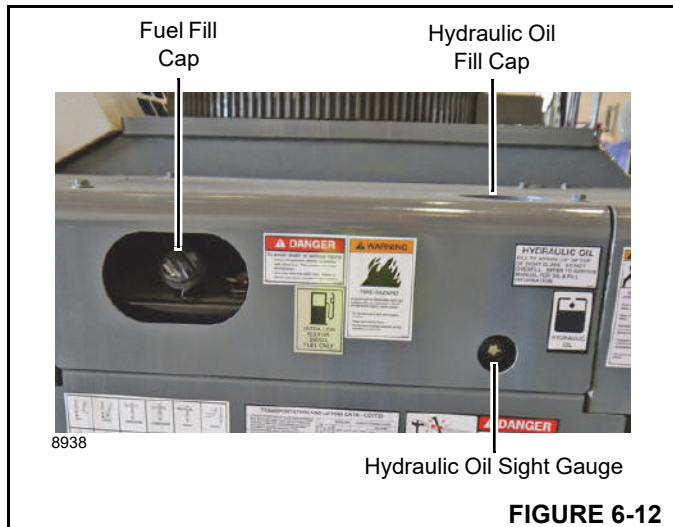

FIGURE 6-12
Check the fuel level daily before operation. Turn the ignition key to the ON position and view the fuel gauge on the instrument panel. If necessary, fill the tank (Figure 6-12) with recommended fuel.
3. Visually check the oil level on the hydraulic oil level sight gauge (Figure 6-12). The hydraulic oil should be 3 mm (0.125 in) from the top of the sight gauge. If low, fill tank with clean recommended hydraulic oil (Section 8).